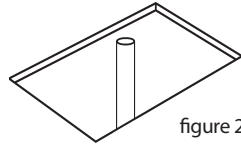

figure 2
3. Determine the location of the drain pipe, and air line (on units with Airbath Systems) on the floor by taking measurements of the drain and waste location underneath the unit (figure 2).